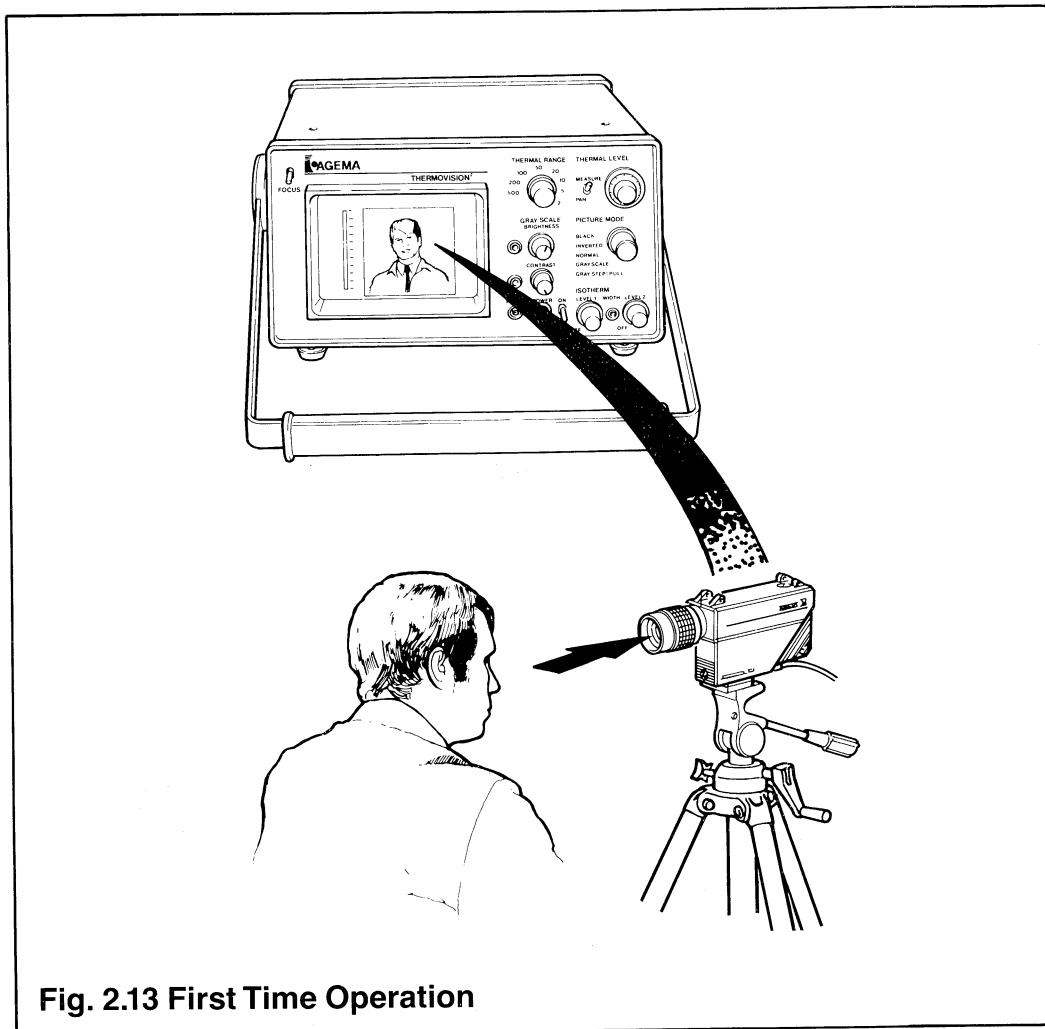

Fig. 2.13 First Time Operation
- (j) Point the scanner at a test object, e.g. a person's face. (Fig. 2.13).